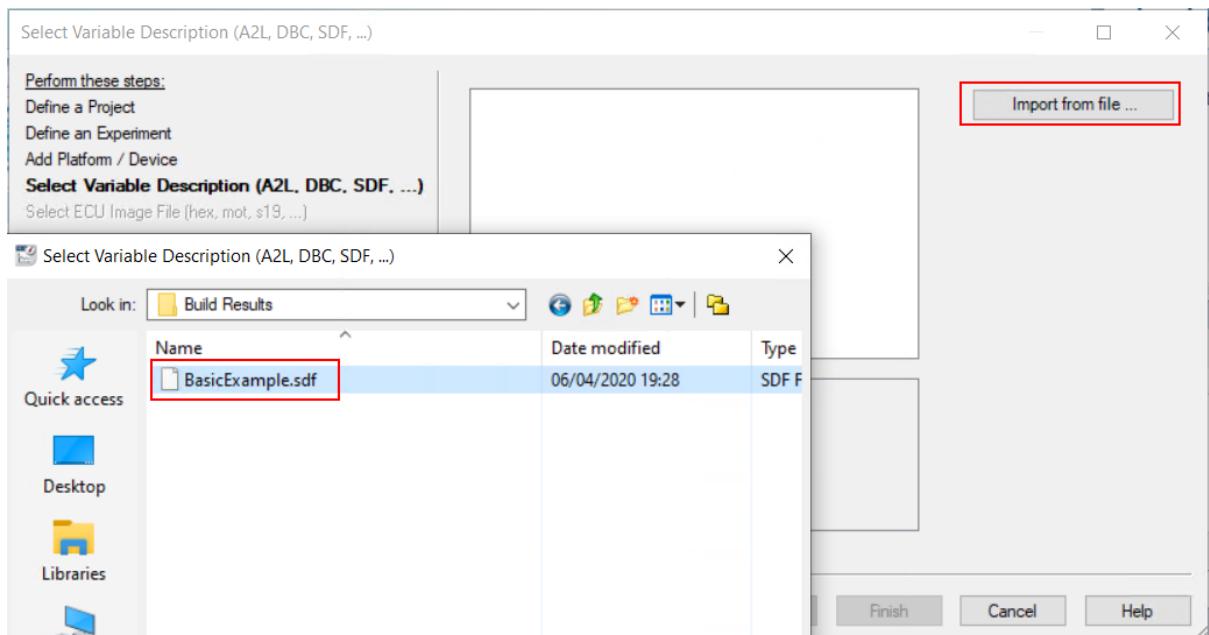

Figure 13.52: Import the variable description file.
- 5) Import the variable description file `BasicExample.sdf` in order to have access to the model variables and see the results of the execution (see Figure 13.52).